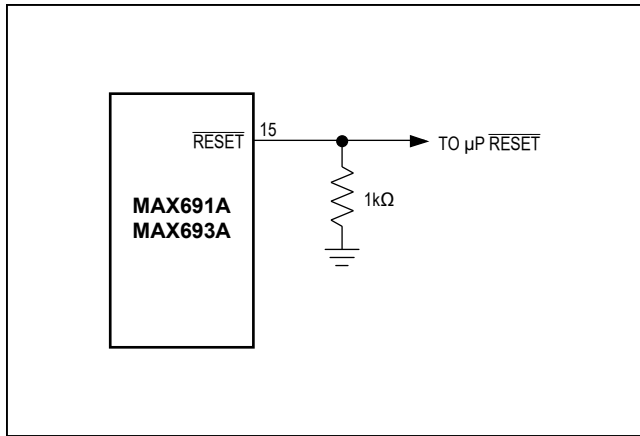

Figure 1. Adding an external pull-down resistor ensures  $\overline{\text{RESET}}$  is valid with  $V_{CC}$  down to GND.
sinks 3.2mA with a saturation voltage of 0.1V. When no backup battery is used, RESET output is guaranteed to be valid down to VCC = 1V, and an external 10kΩ pulldown resistor on RESET insures that it will be valid with VCC down to GND (Figure 1). As VCC goes below 1V, the gate drive to the RESET output switch reduces accordingly, increasing the RDS(ON) and the saturation voltage. The 10kΩ pulldown resistor insures the parallel combination of switch plus resistor is around 10kΩ and the output saturation voltage is below 0.4V while sinking 40μA. When using a 10kΩ external pulldown resistor, the high state for RESET output with VCC = 4.75V will be 4.5V typical.